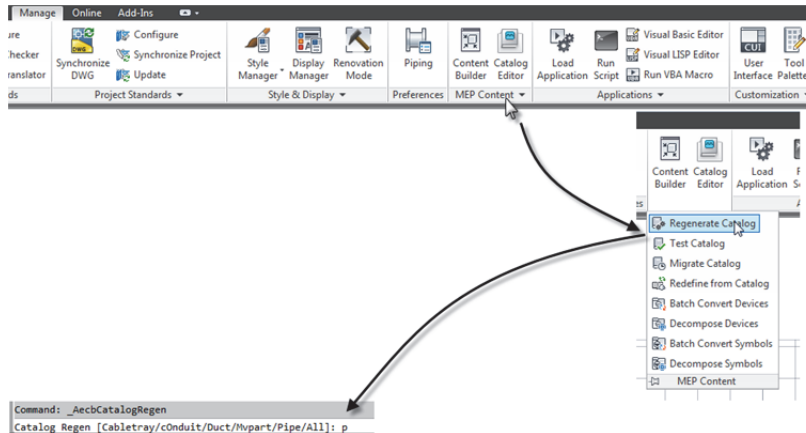

FIGURE 11.2
9. On the Manage tab, expand the MEP Content panel and then click the Regenerate Catalog button (see Figure 11.2).